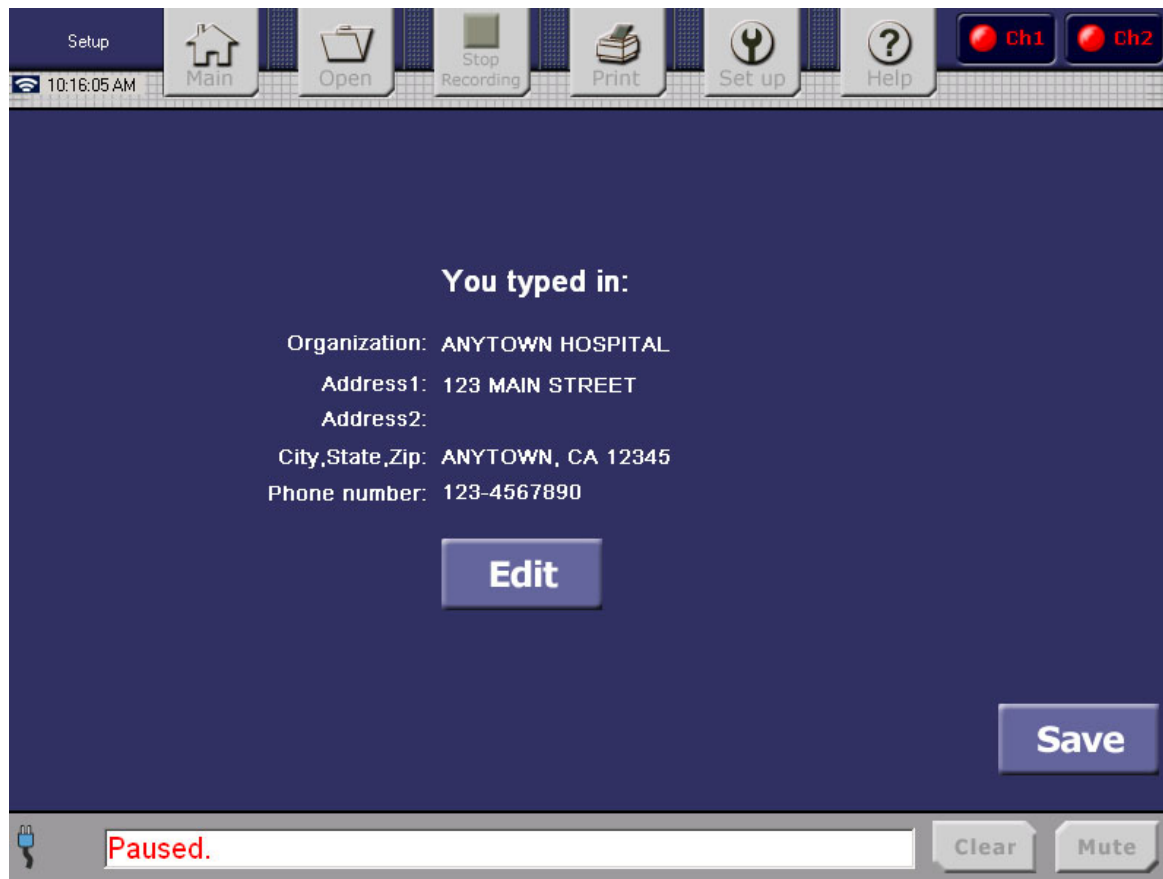

Figure 27. Organization Information Confirmation
6. You will see a confirmation screen (Figure 27), displaying the Organization information that you entered.